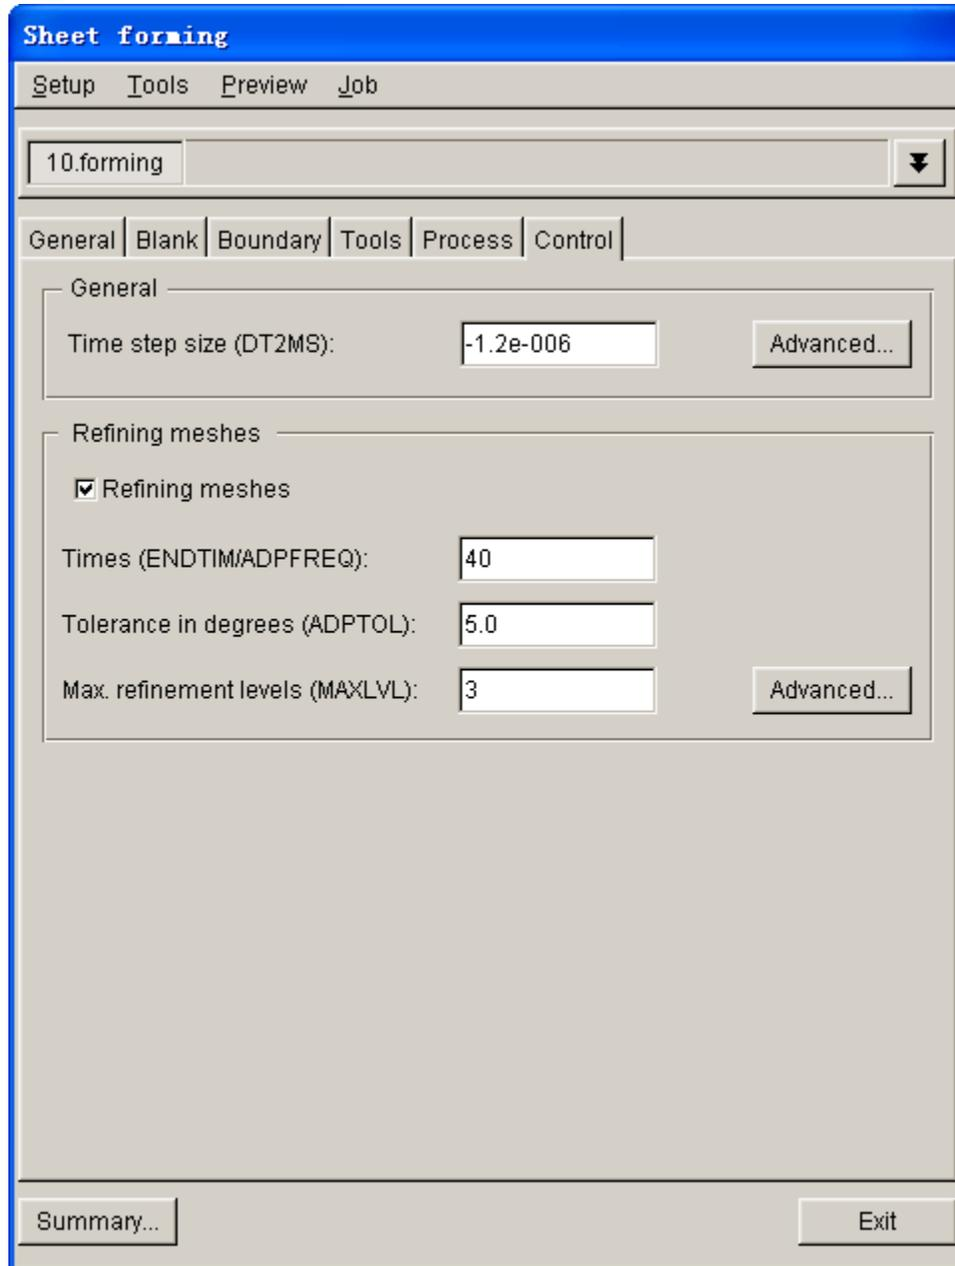

Figure 8.2.99 Basic control parameter setup interface
In Control parameter page, the user is allowed to set up basic parameters to control calculation. These parameters include time step size, number of CPUs, adaptive setup, implicit analysis parameters, restart file output control, etc. Control parameter setup interface is illustrated in Figure 8.2.99.
**ADVANCED....:** Advanced setup for basic parameters. The interface is illustrated in Figure 8.2.99.